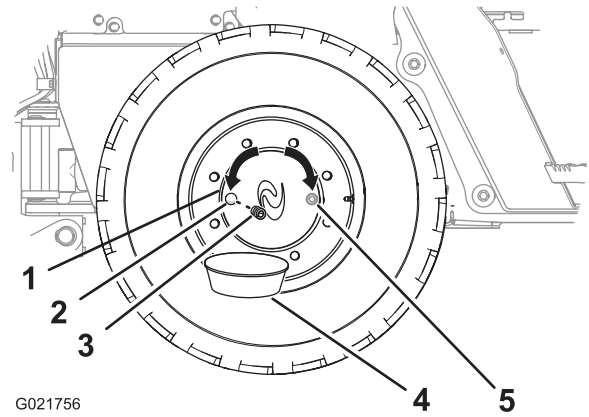

Figure 64
2. Move the machine forward or backward until the plug for the wheel hub is at either the 3 o'clock or 9 o'clock position (Figure 64).
4. Place a drain pan under the drain port in the wheel hub (Figure 64).
5. Remove the plug from the wheel hub (Figure 64).
6. Check that the oil level is at the bottom of the threads of the oil port (Figure 64).
8. Install the plug in the oil port of the wheel hub (Figure 64).